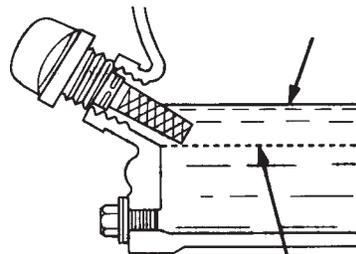

Figure 5. Engine Oil Dipstick (Oil Level)
4. If the oil level is low (Figure 5), fill to the edge of the oil filler hole with the recommended oil type (Table 5). Maximum oil capacity is 0.63 quarts (0.60 liters)